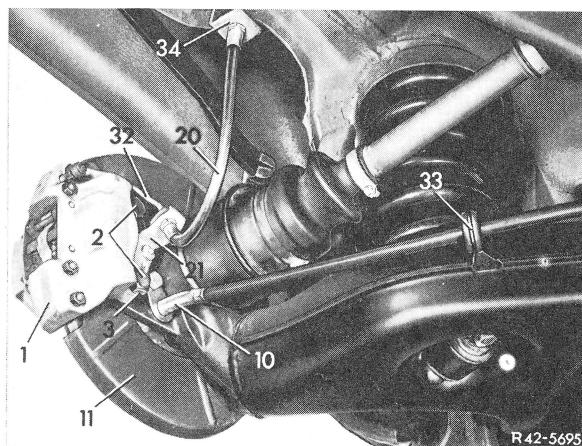

Fig. 6
13 Make sure of perfect layout of brake cable control (10) in rubber sleeve of holder (33) (Fig. 6).